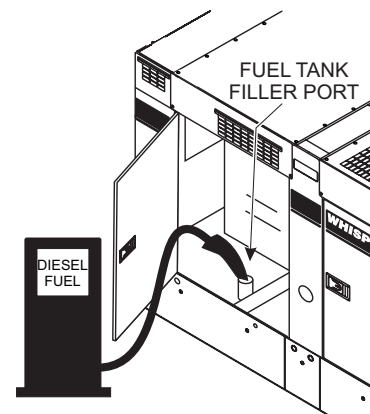

Figure 32. Fueling The Generator
2. Open cabinet doors on the “right side” of the generator (from the generator control panel position). Remove the fuel cap and fill the tank (Figure 32).